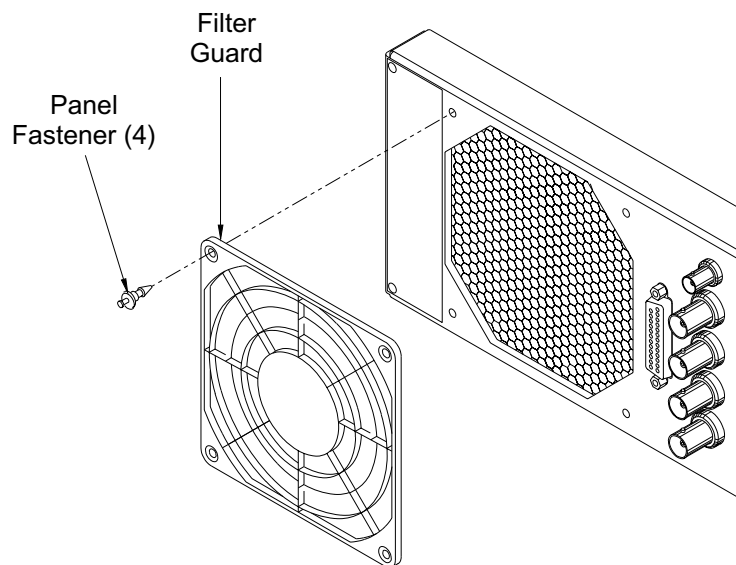

Figure 1-2. Removing/Replacing the Fan Filter Guard
- Step 1** Remove the filter guard from the rear panel by pulling out on the four panel fasteners holding them in place (Figure 1-2).